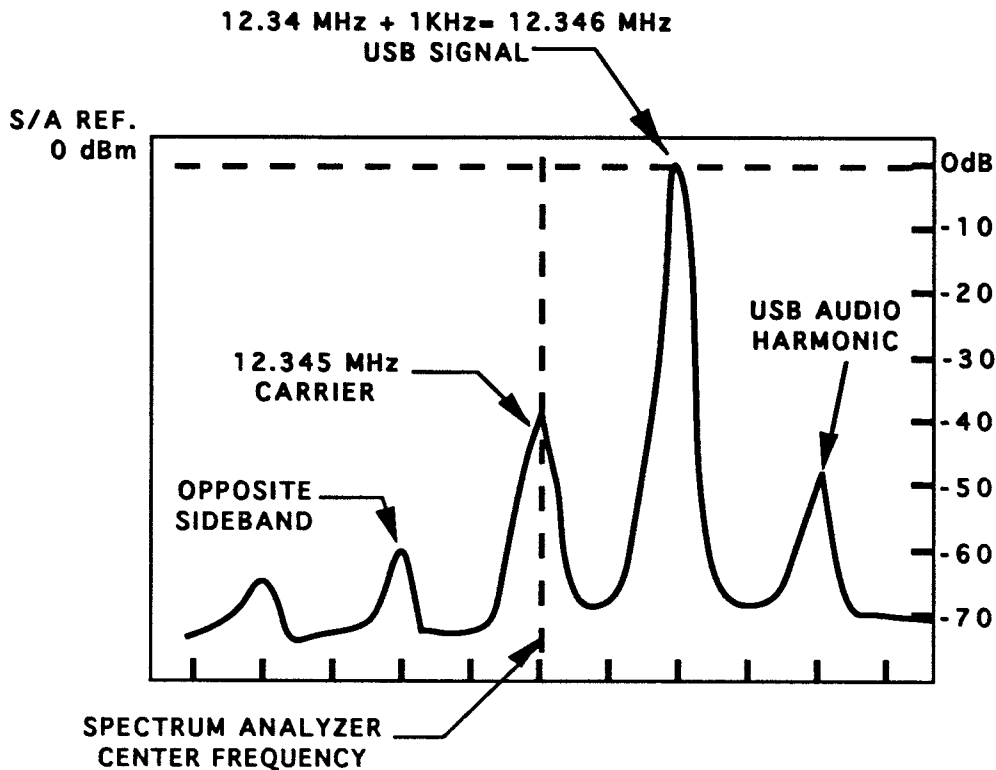

Figure 5-7. RF Power Calibration Spectrum Trace
- j. With setup as in i above, place the mode switch to SET COMM and turn audio test tone ON. (Use keypad key 3 to toggle AUDIO TEST TONE on or off when in SET COMM mode.) Place mode switch to USB. Key in 12.345 MHz. Set spectrum analyzer for 500 Hz/div., 10 dB log. Key transmitter to HIGH power and tune spectrum analyzer center frequency to 12.345 MHz. Refer to Figure 5-7.